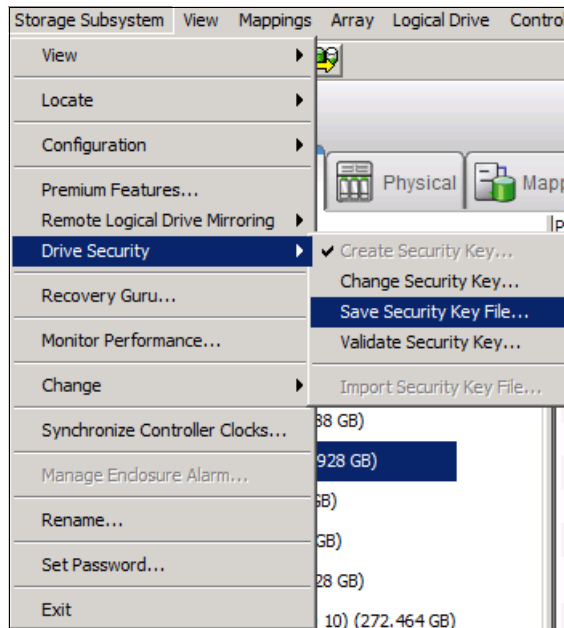

Figure 15-13 Save Security Key file
5. Click **Storage Subsystem** → **Drive Security** → **Save Security Key File** as shown in Figure 15-13 on page 453. The key location default is in the user's local PC directory. Copy the key and keep it in a safe location.